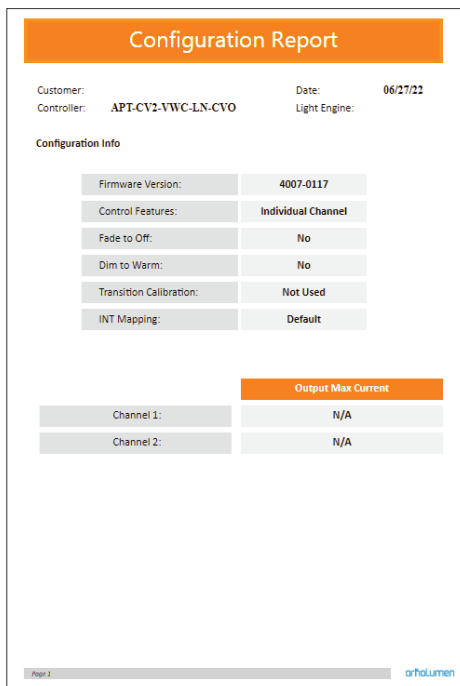

Figure 15: Example of the first page of a generated report
- 5 Click **Generate Report**, the default web browser will open and display a preview of the print (shown in Figure 15).